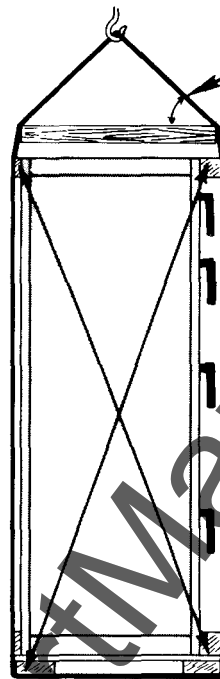

FIGURE 1.
Equipment may be moved into position by means of construction rollers under the shipping skids. Remove all outer packaging. Lifting by crane or other hoisting methods should be performed as shown in Figures 1 and 2. Sections and bus are disconnectable for entry thru restricted passageways.
3. Rig so that legs of sling (Figs. 1 and 2) are no less than 45° from horizontal.